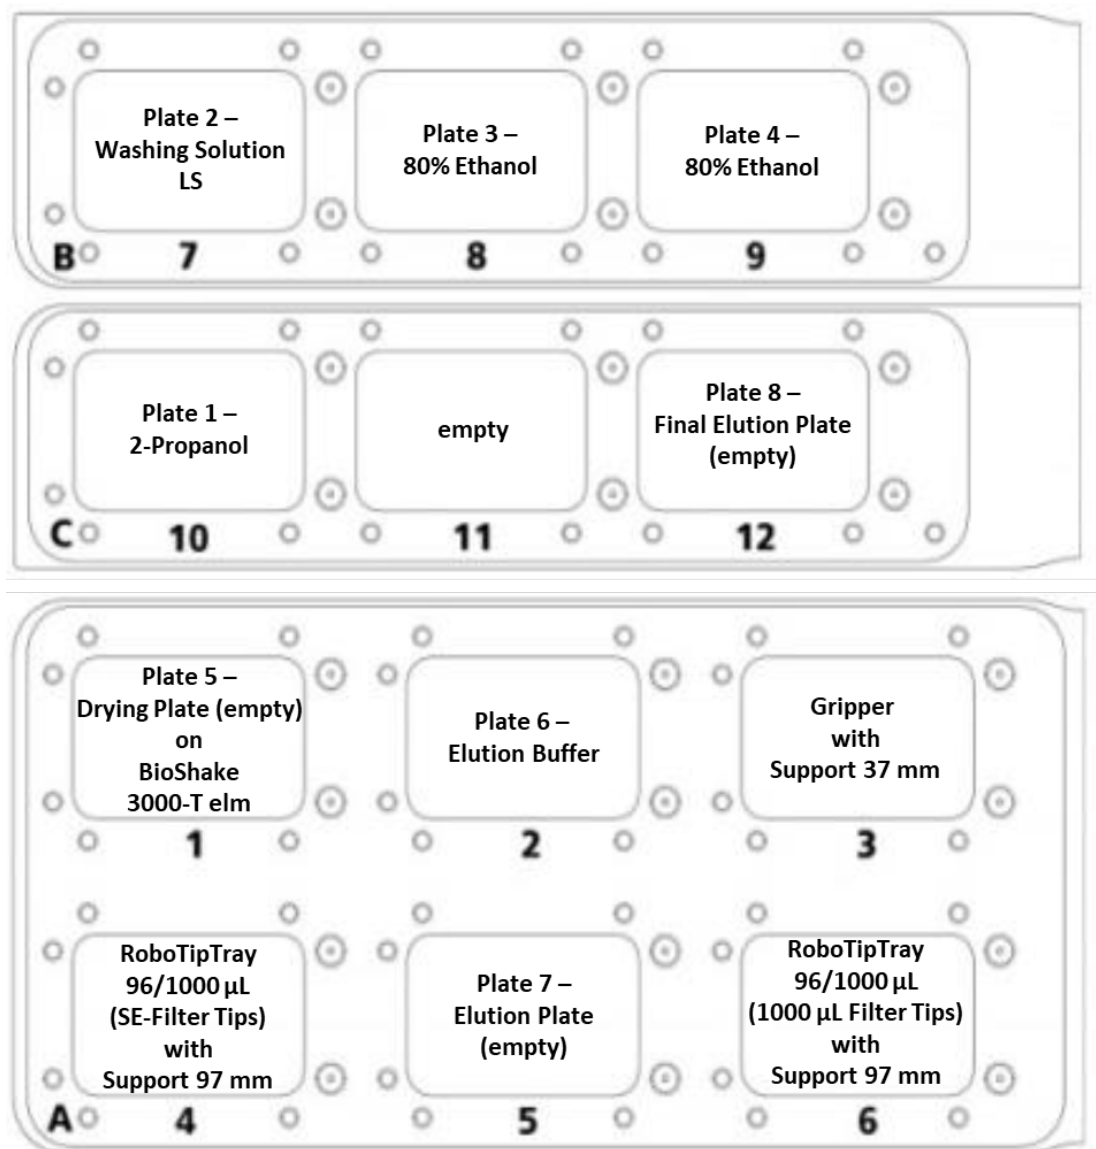

Figure 3: Deck layout for extraction.
Add 96 SmartExtraction Tips (or the number of tips required) to a 96-Channel Magazine placed on a 97 mm support on **deck position 4** (→ see Figure 3, p. 19).
3. Place all required plates and accessories onto the CyBio FeliX decks according to **Figure 3**. As a final elution plate (**deck position 12**) multiple options are possible: